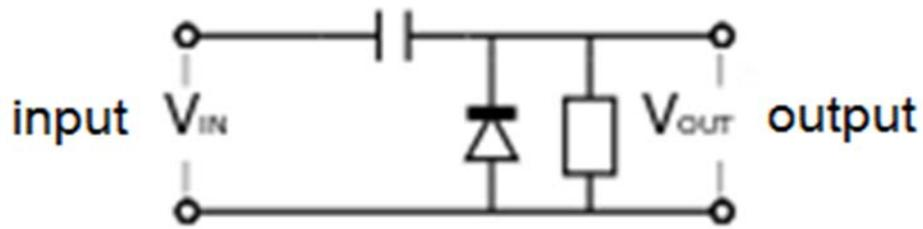
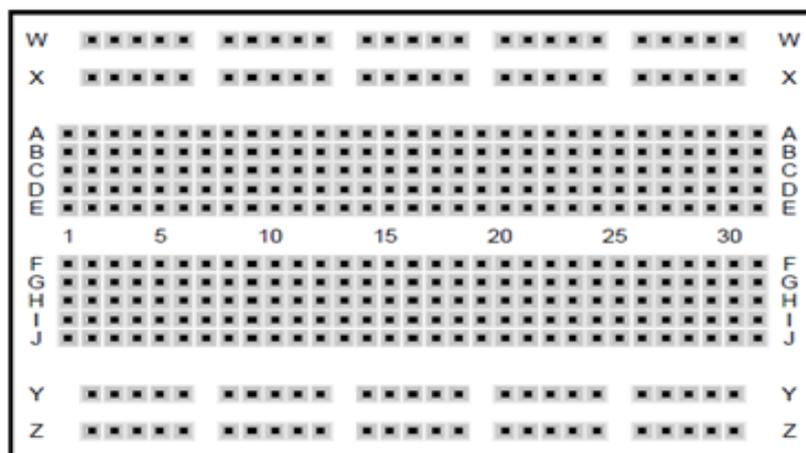

FIGURE 4.7.13
FIGURE 4.7.14
4.7.5 Construct the simple clamper circuit in FIGURE 4.7.13 on the breadboard in FIGURE 4.7.14 below. Draw the component layout on the figure.